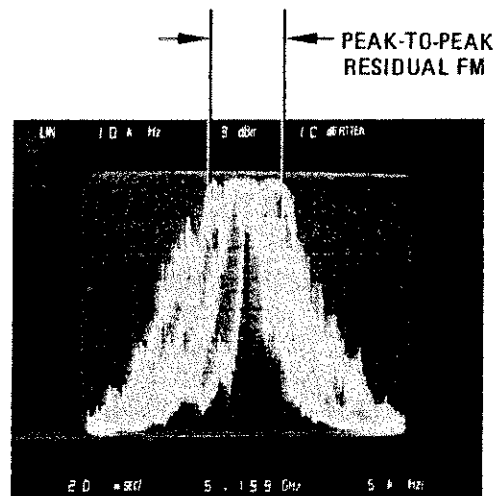

Figure 4-6. Residual FM Displayed on Spectrum Analyzer
- h. Push START/RESET pushbutton five times at approximately one second intervals and store resultant traces on CRT screen. Display should be similar to that shown in Figure 4-6.